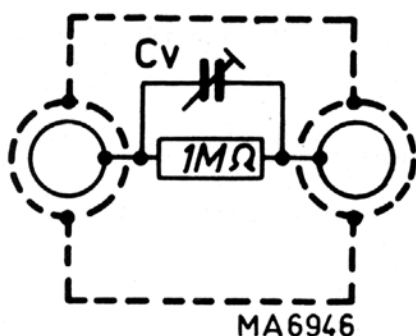

Fig. 5.6. Diagram of 2 : 1 dummy probe.
- Apply a square-wave voltage (frequency 2kHz/risetime ≤ 200 ns) to the channel A (B, C, D) input via the dummy probe indicated in figure 5.6. (1 Mohm $\pm 1\%$ // 15pF).